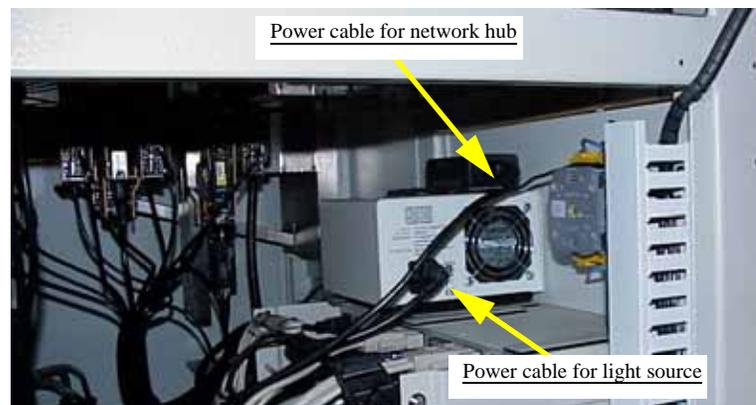

Figure 1-22—Light source rotated 180 degrees and power cables installed
- 13e) Re-install power cables to the light source and network hub as shown in *Figure 1-22*.